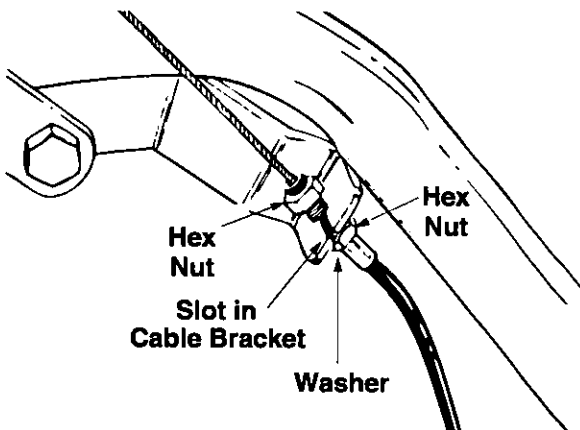

Figure 7
2. Slip the wire through the slot on the cable bracket on the left handle. Push the end of the casing up through the cable bracket. Rethread the hex nut on the end of the cable casing, four turns. Do not tighten at this time. See Figure 7.